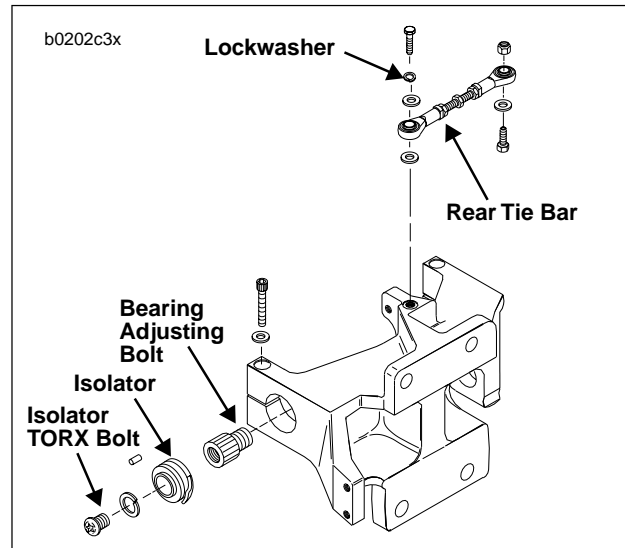

Figure 2-71. Mount Block
7. See Figure 2-71. Remove frame side tie bar mounting hardware from front lower and center tie bars. Leave fourth tie bar (front upper) attached to both frame and engine.
8. See Figure 2-71. Remove rear tie bar bolt, lockwasher and washers from mount block.
9. See Figure 2-71. Loosen left side isolator bolt from swing arm bearing adjusting bolt. Do not remove.
10. See Figure 2-71. Remove right side isolator bolt and washer from swingarm bearing adjustment bolt.
10. See Figure 2-71. Install isolator TORX bolts and washers through both rubber isolators into bearing adjustment bolts on each side.